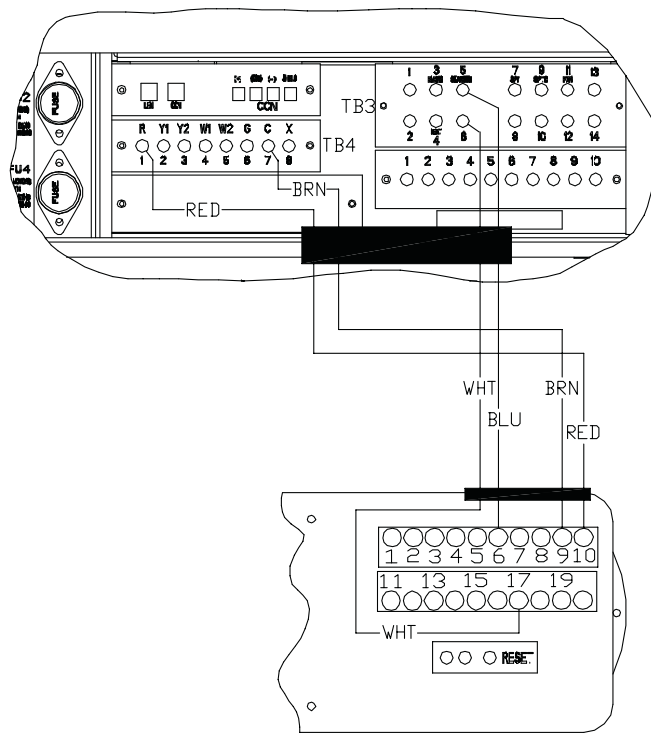

Fig. 3 — Return Air Smoke Detector Wiring
6. Insert stripped ends of wire harness through knockout and wire to smoke detector as shown in Fig. 3.
19. Feed wires through snap bushing and connect to appropriate terminals as shown in Fig. 3.